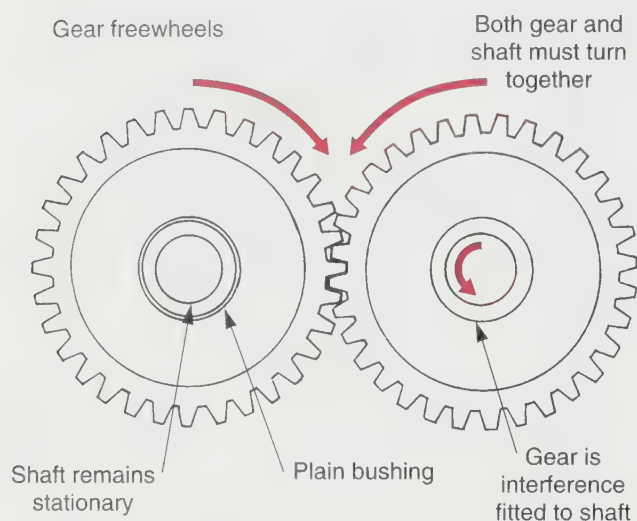

Figure 13-21. Each pair of gears in the transmission has one gear locked to the shaft. The other gear freewheels on the shaft until engaged.
- One gear may freewheel while the other gear is locked to the shaft, **Figure 13-21**.